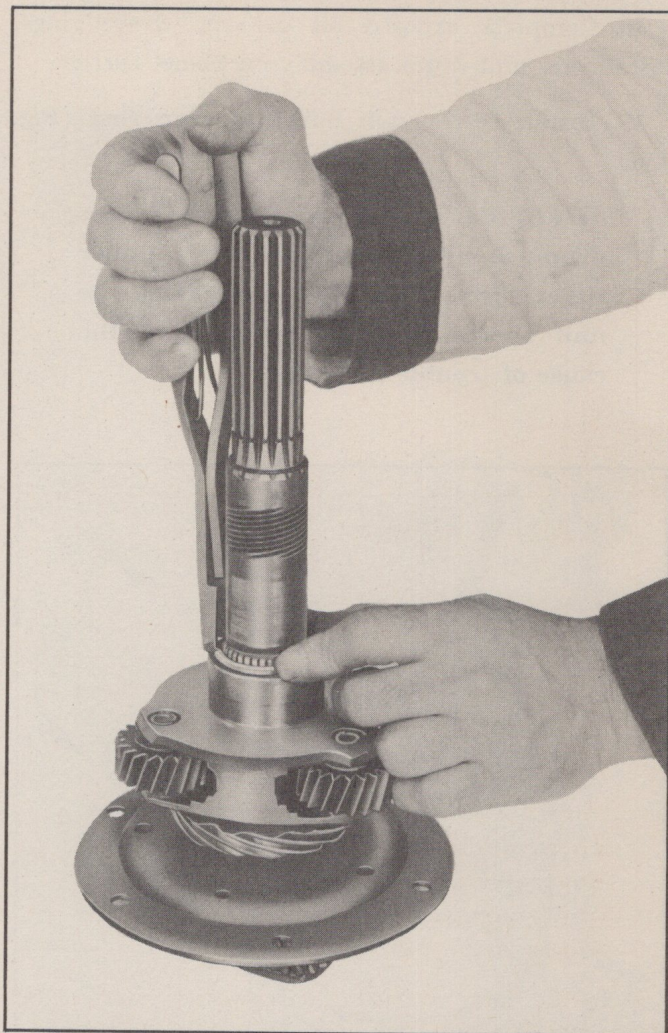

Fig. 259—Installing Snap Ring on Output Shaft
6. Install snap ring on output shaft to position reverse planet carrier (Fig. 259).